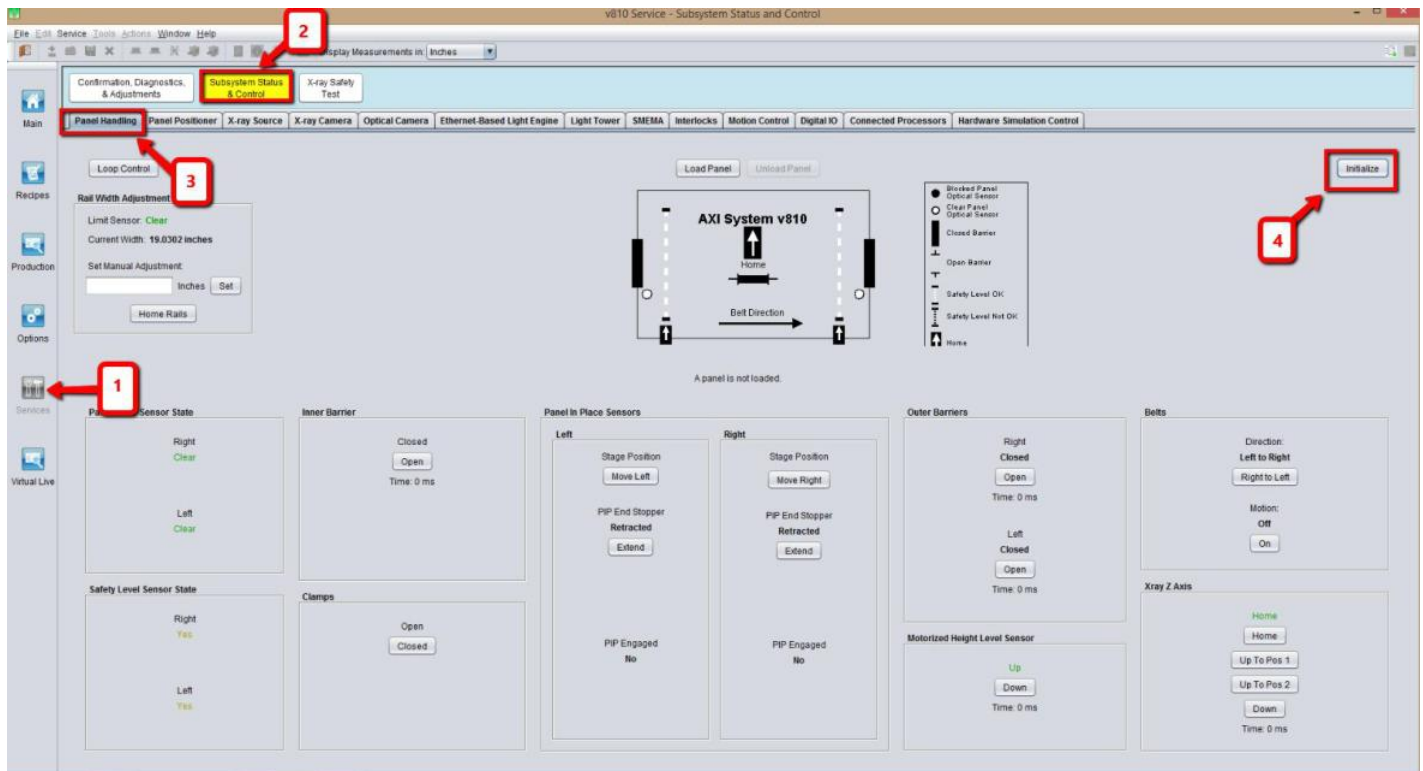

Figure 2 Panel Handling
3. Go to Services -> Subsystem Status & Control -> Panel Handling and click Initialize as shown in the Figure 2